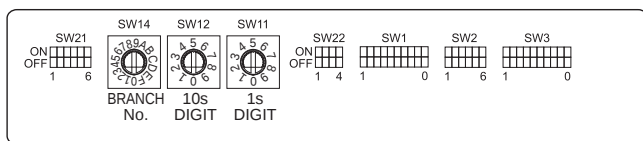

Fig. 6-4
6.4. Setting addresses (Fig. 6-4)
6.5. Switch setting for different ceiling heights (Fig. 6-4)
6.6. Sensing room temperature with the built-in sensor in a remote controller (Fig. 6-4)